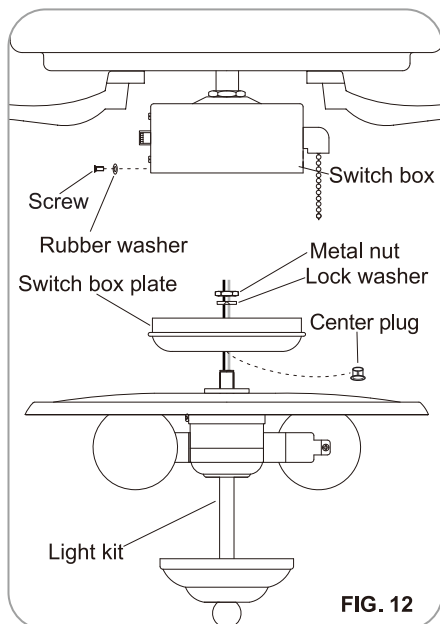

FIG. 12
Step 1: Remove the screws and the rubber washer from the switch box to allow easy wiring. (Fig.12)
Step 2: Remove and discard the center plug from the switch box plate. Attach the light kit to the switch box plate by feeding the wires and threading the light kit through the hole of the switch box plate, secure it to the switch box plate using the nut and lock washer. Be sure it is tight enough to prevent the light kit from vibrating loose. (Fig.12)